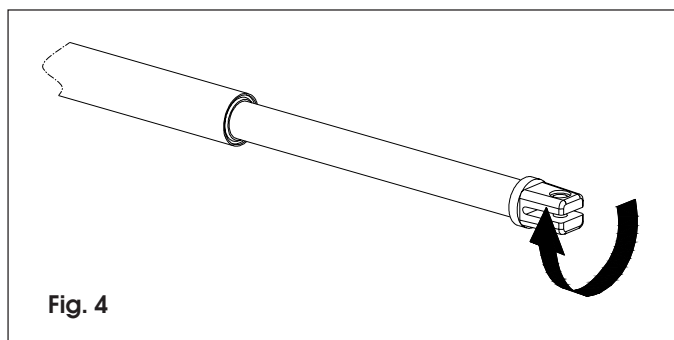

Fig. 4
- 4) Extend the rod to the end of its stroke (fig. 4).
- 6) Rotate the operator stem half/one turn clockwise (fig. 4).